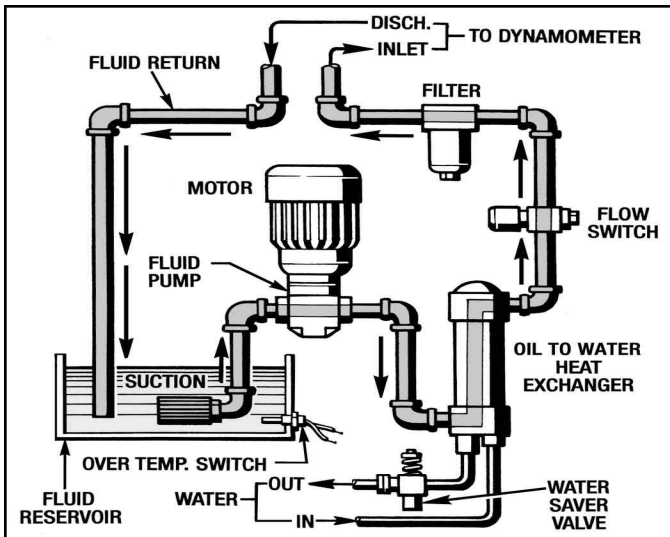

Figure 1.3 - Oil to Water Without Kidney Filtration
1. Oil to Water without Kidney Filtration. (See *Figure 1.3*)